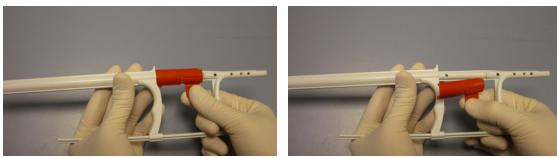

Figure 3 – Handling of shipping lock
- The self-expanding stent is constrained in the space between the guide wire lumen and stent delivery sheath. Unintended stent movement during sheath retraction is restricted by the delivery device. The stent delivery sheath has a radiopaque zone at its distal end. The tip is radiopaque, too. Proximal and distal to the loaded stents are radiopaque markers. Prior to deployment the shipping lock (Figure 3) must be removed and discarded.